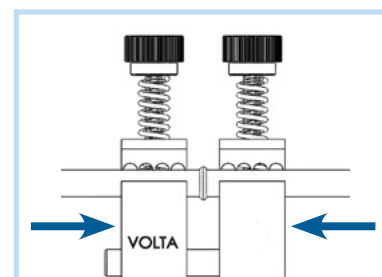

Fig. 12
8. Close pliers quickly but gently and tighten the locking nut (7) (Fig. 12).